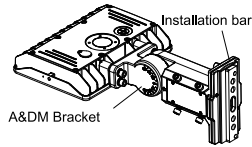

Figure 24
Step 1: Change the rubber plug on the Installation bar to the A&DM bracket(Figure 24);